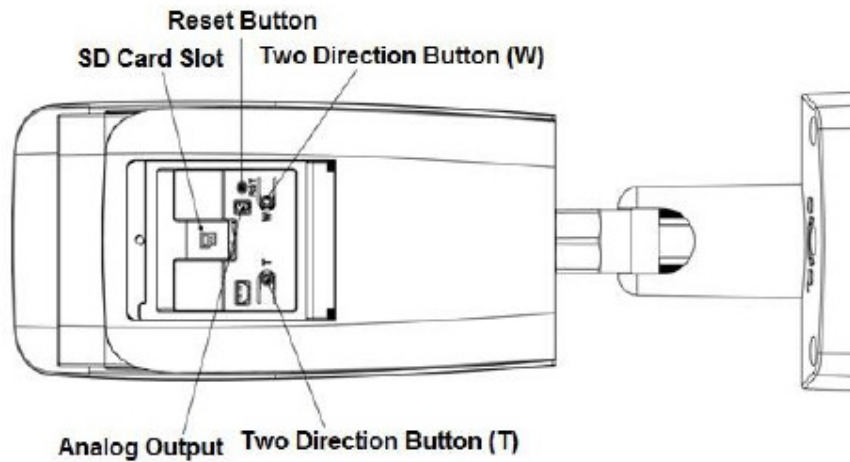

Figure 2-2
- Insert the SD card into the slot which is shown in Figure 2-2, user may press the SD card slightly to insert it because the card slot is elastic.